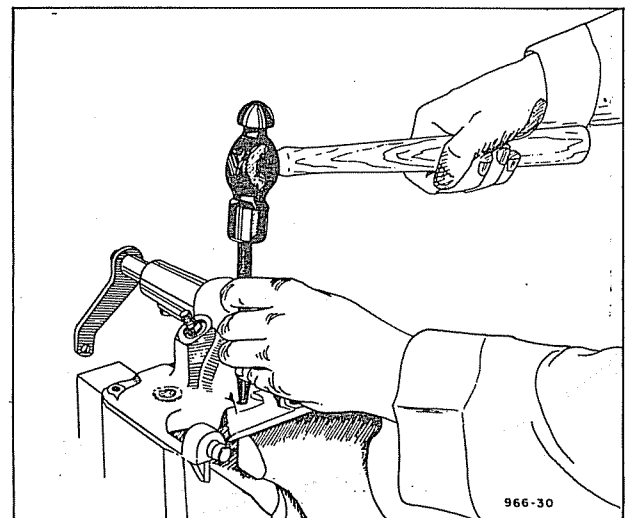
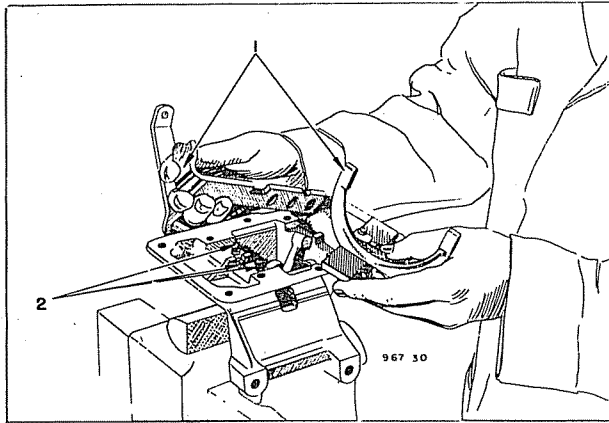

Fig. 7—Removing Shift Rail Retainer Rivets.
Fig. 8—Removing Shift Rails.
- (1) Place cover assembly in vice. The cover is a casting. Tighten vice carefully to avoid damaging the casting.
- (2) Centre punch the formed side of the four rivets that hold the shift rails in position. (Figure 7).
- (3) Drill each rivet to permit easy removal and drive them out with a suitable punch.
- (4) Lift off the shifter rail retainer brackets.
- (5) Remove selector levers, being careful not to lose the small steel balls in the cover (Figure 8).